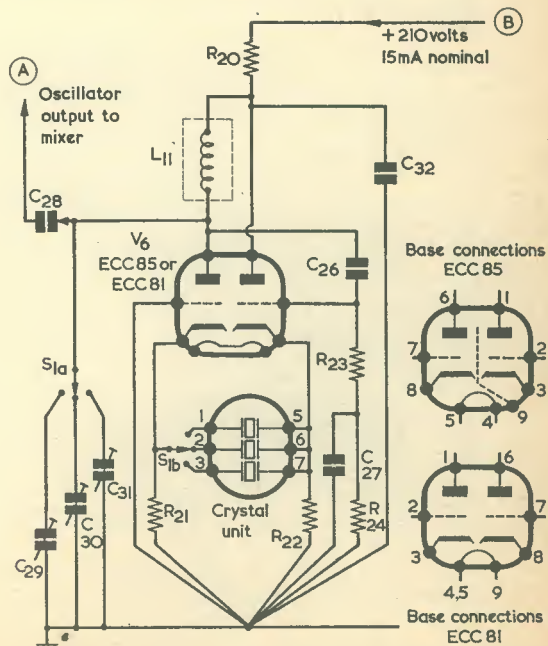

Fig. 2. The crystal-controlled oscillator circuit. The ECC85 is preferable but an ECC81 may also be used
- (i) The crystal controlled oscillator circuit (Fig. 2).